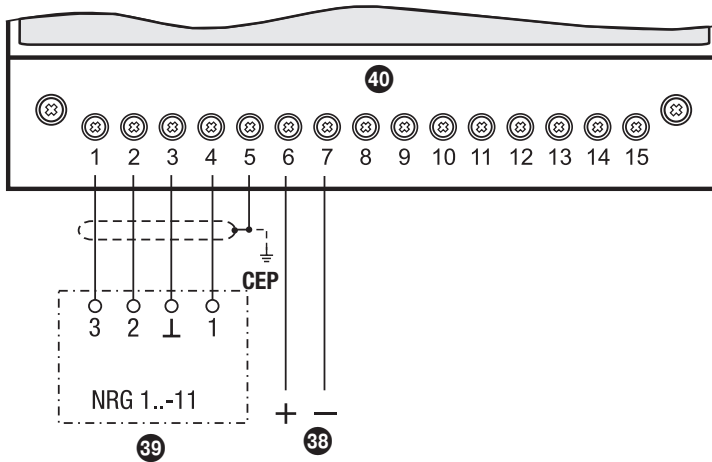
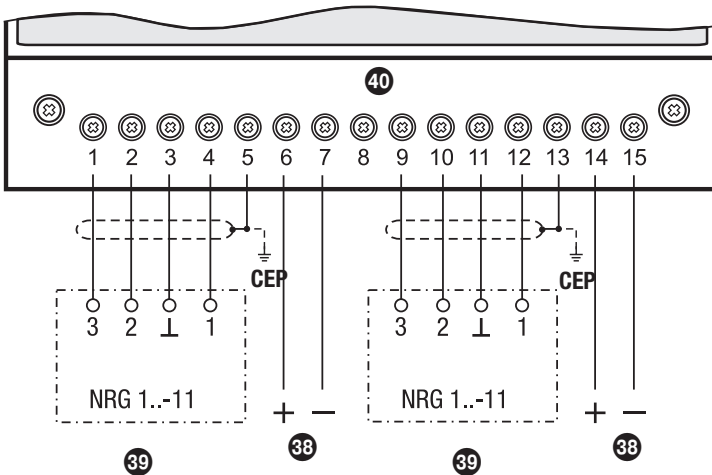

Fig. 13 Wiring diagram for equipment with ONE electrode
Fig. 14 Wiring diagram for equipment with TWO electrodes
Wire terminal strip in accordance with the wiring diagram. **Fig. 13, Fig. 14.**
1. Make sure that the NRG 16-11 and NRG 26-1 are wired in accordance with the wiring diagram. **Fig. 10, Fig. 13, Fig. 14**